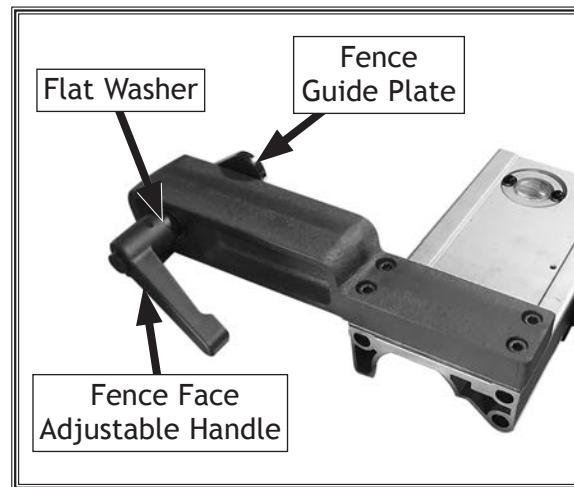

Figure 27. Fence face adjustable handle and fence guide plate installed.
11. Install fence face adjustable handle onto fence base with (1) 8mm flat washer, and thread into fence guide plate (see **Figure 27**).